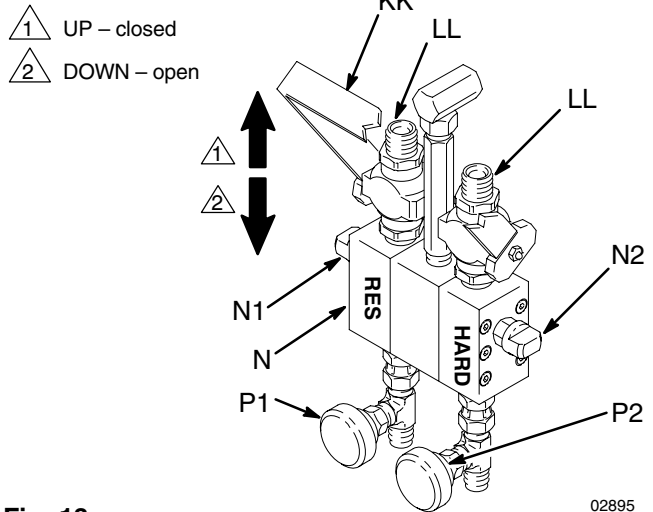

Fig. 13
To open or close the mixer manifold (N) fluid valves (LL) push the handle (KK) down to open and up to close. See Fig. 13.
3. Place a container under the drain valves (P1,P2) of the mixer manifold (N). See Fig. 13.
8. Open the hardener side drain valve (P1). Open the mixer manifold handle (KK). See Fig. 13.
11. Open the hardener solvent flush valve (N1) on the mixer manifold (N). See Fig. 13.
- d. Open the resin solvent flush valve (N2) and repeat Step c. See Fig. 13.